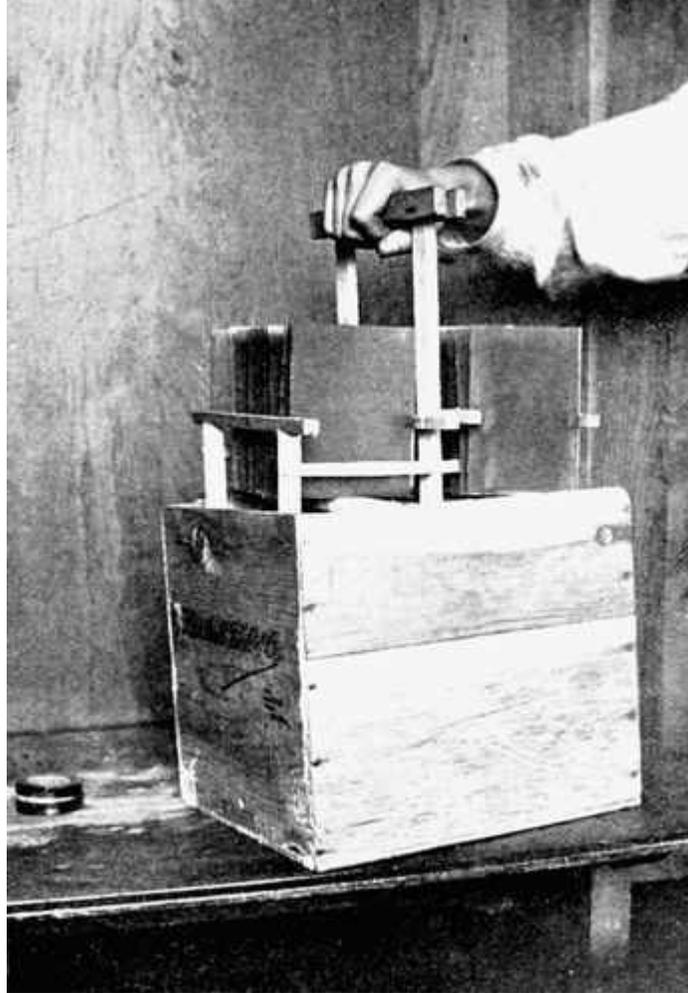
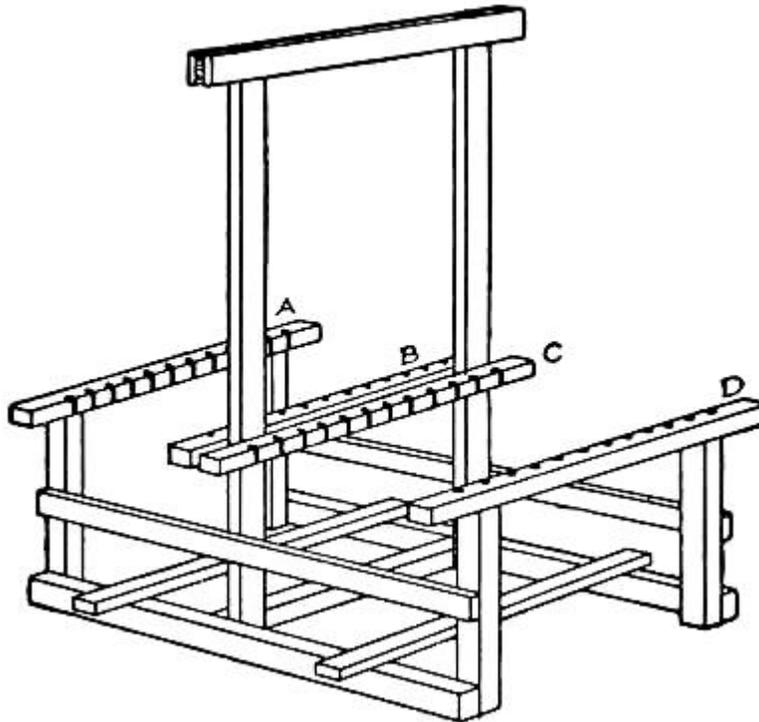

FIG. 172. A WASHING BOX AND DRYING RACK.
FIG. 173.—A Washing-rack.
**A Washing-box**, after the scheme of Fig. 172, made to hold the negatives while washing them. This box will stand on the shelf beside the sink until you are through developing. The rack is made up of strips of wood fastened together with wire brads. Figure 173 clearly shows its construction. Strips *A*, *B*, *C*, and *D* should be placed three and three-quarters inches apart for four-by-five plates, and kerfs should be cut in their edges as shown. *A* and *D* are mounted upon short stilts, and *B* and *C* are nailed to the uprights supporting the handle. The plates rest upon strips nailed across the bottom pieces.